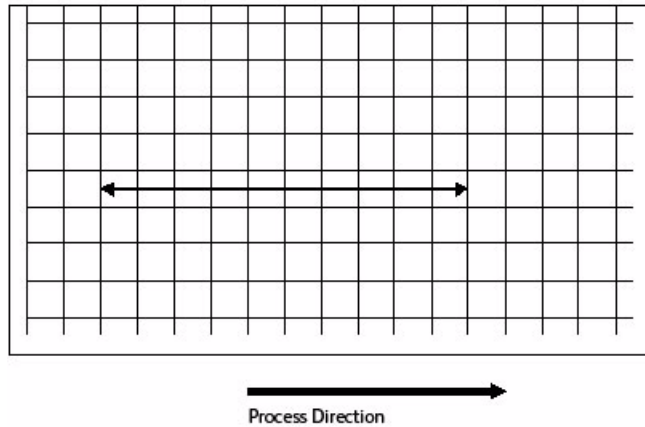

Figure 1 Image Size Adjustment Check
3. Select **dc361 NVM Save and Restore**. The dc361 NVM Save and Restore window opens (Figure 1)
Figure 1 dc361 NVM Save and Restore
7. Check the measured value in process direction of 10 grid squares. The results should be 199.8 mm as in Figure 1. If the desired result is not achieved continue with this procedure.